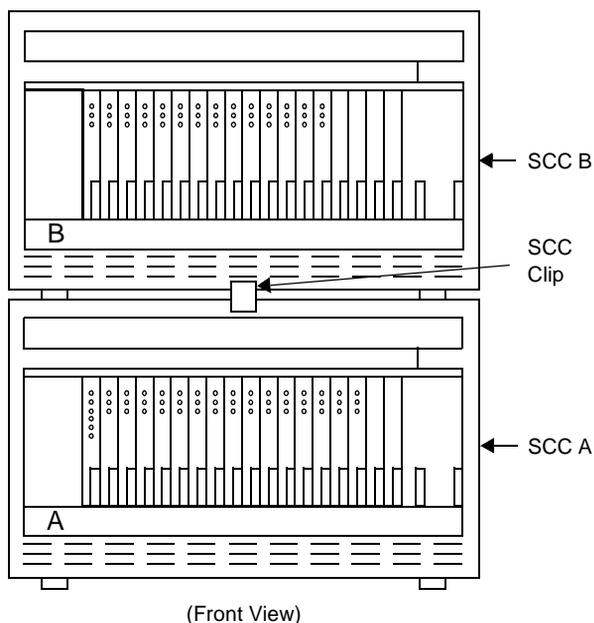

Figure 3-6. Installing Additional SCCs
1. At the front of the SCCs, install a cabinet clip between the SCCs. Refer back to Figure 3-6 on page 3-11.